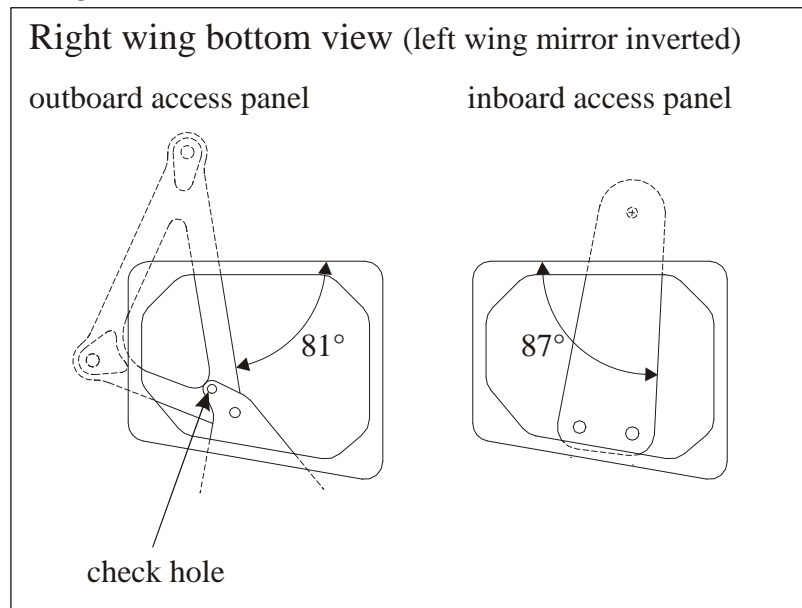

Figure 12 Neutral Position of Aileron Bellcranks
- 5 Install in reverse sequence of removal. Ensure that the spade is installed with the same quantity and location of shimming washers (refer to Figure 12). Observe the second note of Chapter 27-00-00. Apply new 3M Scotch 8671 PU tape.
- 3 Check neutral (87°) position of inboard bellcranks (refer to Figure 12).
- 5 Check neutral (81°) position of outboard bellcranks using the respective check hole (refer to Figure 12).